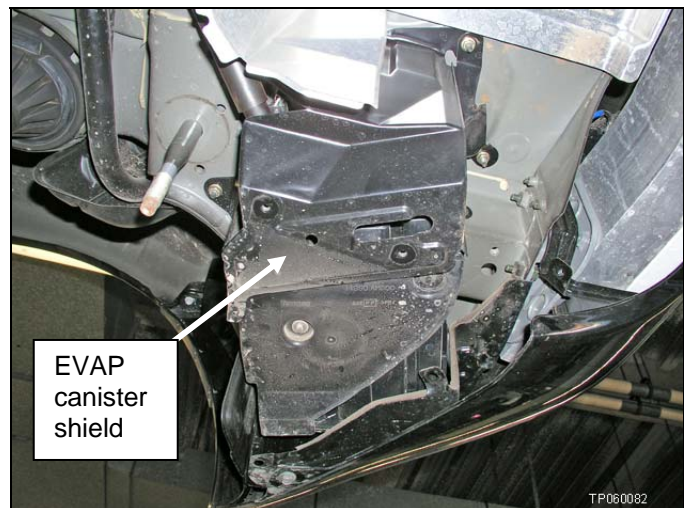

Figure 31
31. Remove three nuts and remove the evaporative canister shield (see Figure 31).